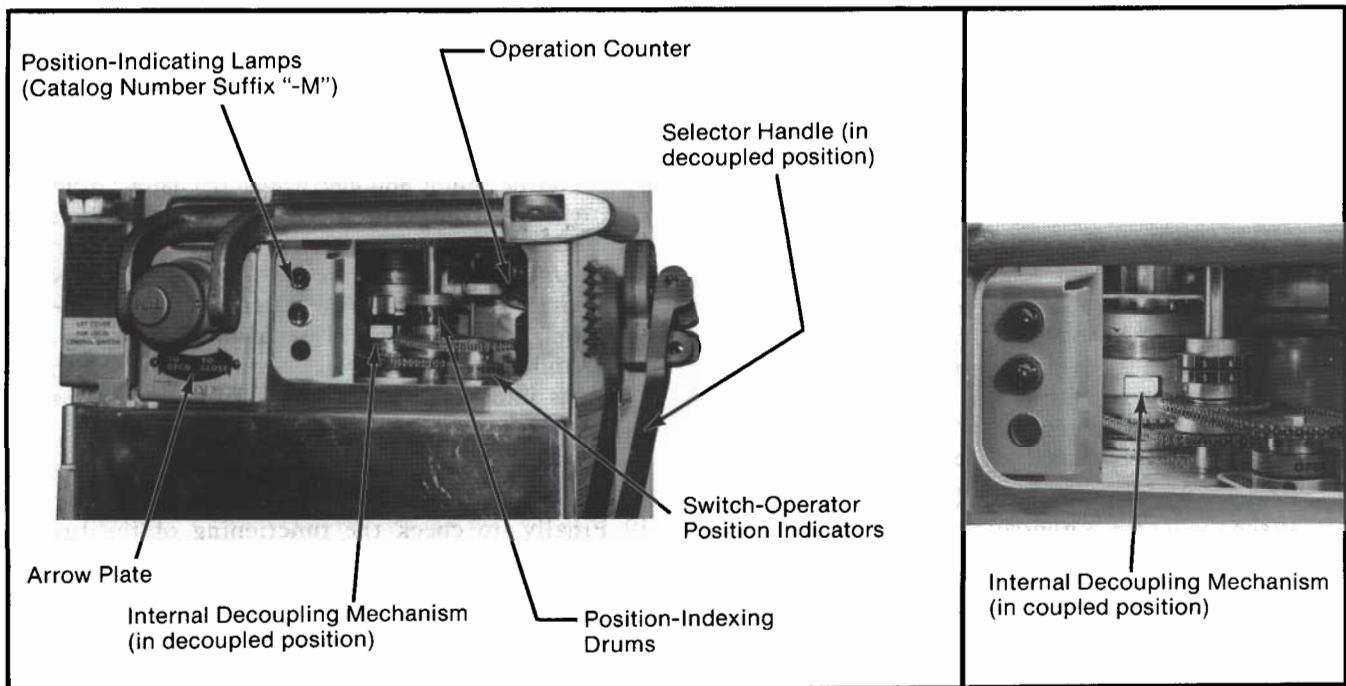

Figure 5. Views of switch operator through observation window.
- The switch-operator position indicator, Figure 5, signals "Open" or "Closed" to indicate that the switch operator has moved through a complete operation. Also note the position-indicating lamps, Figure 5, if furnished.
window, will verify whether the internal decoupling mechanism is in the coupled or decoupled position. See Figure 5. The selector handle may be padlocked in either position.
Manually operate the switch operator to bring it to the same position (open or closed) as the Circuit-Switcher. The switch-operator position indicator, seen through the observation window, will show when the approximate open or closed position has been attained. See Figure 5. To move the switch operator to the exact position for coupling, turn the manual operating handle slowly until the position-indexing drums are numerically aligned. Then swing the selector handle upright and rotate it counterclockwise to the coupled position. Lower the handle to engage the locking tab. The selector handle is now in the coupled position.